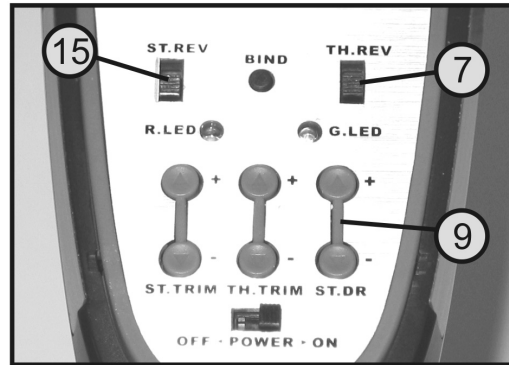
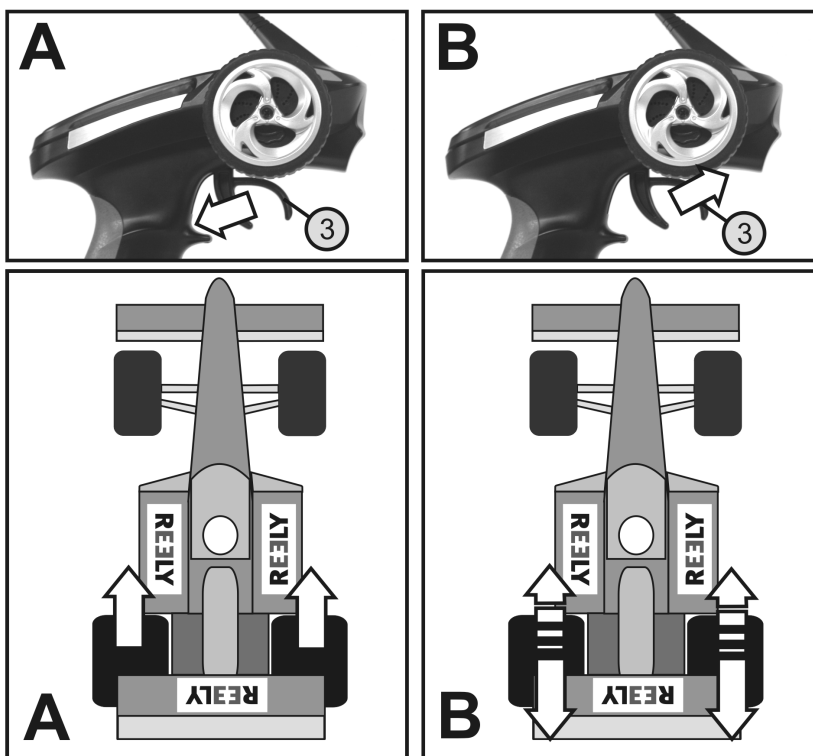

Figure 12
Figure 13
Set the steering linkages at your model so that they can reach their full deflection to the right and left without the steering stopping or being limited mechanically. If the steering deflection proves to be too large when operating the model, reduce it using the dual rate button for the steering function (see figure 12, item 9).
When you move the operating lever for the drive function (see figure 1, item 3) towards the handle to the stop, the model must accelerate (see figure 13, sketches A). If you press the lever forwards, the model must decelerate or switch to reverse driving (see figure 13, sketches B).
If your model's drive reacts opposite to the indication in figure 13, use the drive function reverse switch (see figure 12, item 7) to switch the effective direction of the operating lever.